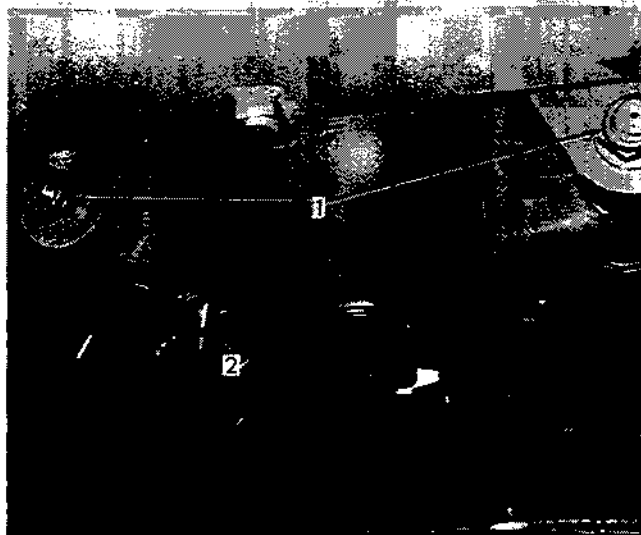

Fig. 9 Typical Rear Axle (Rear Side)
d. Tighten self-locking nuts Fig. 9 (1) to a torque of 900 to 950 lbs. ft. (124 - 131 kg-m).